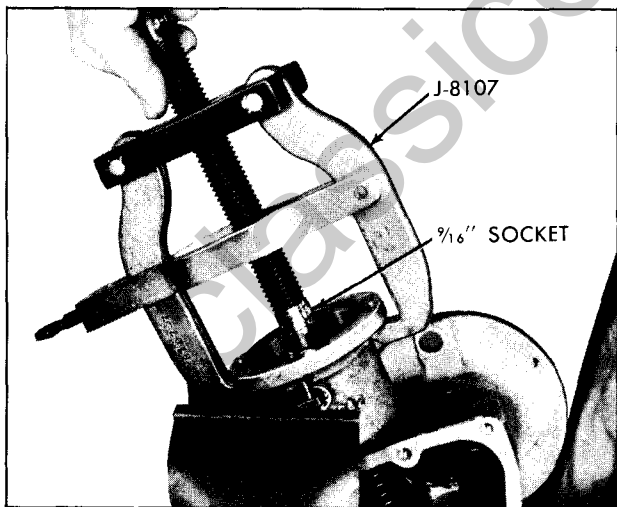

Figure 36—Clevis Pin Removal or Installation
4. Install Tool J-8107, figure 36, over piston bore and clamp onto flange, install a 9/16" socket over self-locking nut and tighten down on tool until tension is relieved on clevis pin. Remove clevis pin (fig. 36).
5. Compress spring, then install clevis pin at push rod and actuator arm connection (fig. 36).